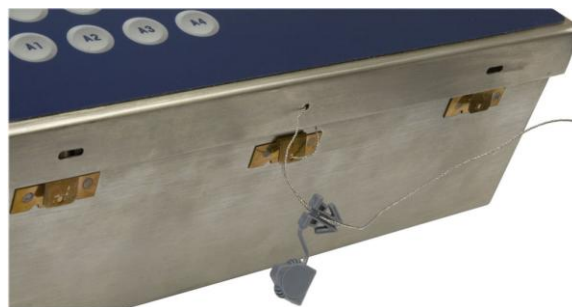

Figure A-77: External Sealing of the Harsh Enclosure
For external sealing of the harsh enclosure, refer to Figure A-77 and follow these steps:
5. Thread the end of the wire cable through the plastic seal and snap the seal shut. Note that, to show the relationship between the components, Figure A-77 shows the cover open, the wire slack, and the seal not yet shut.